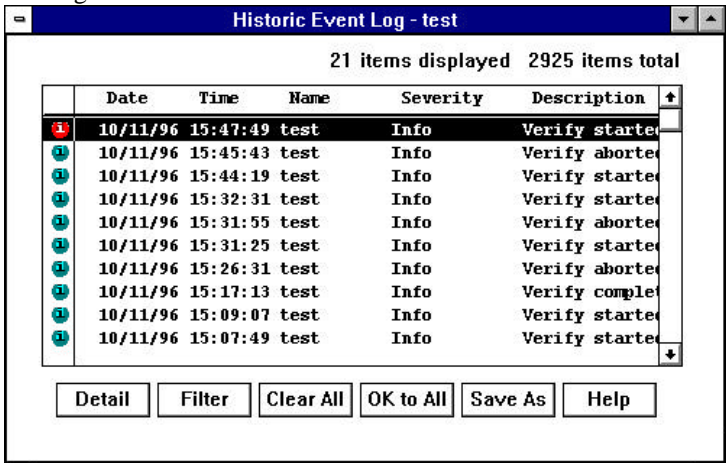

Figure 2-7: Server Historic Event Log Window
1. Click the  button on the toolbar. The Historic Event Log window for the currently selected server appears, as shown in Figure 2-7.